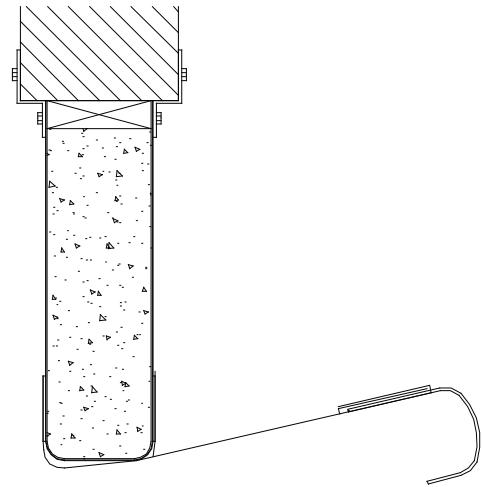

FIGURE 5
2. Make sure that the velcro flap on the outside of the side curtain completely covers the velcro on the side frame. (See Figure 5)
4. Starting at the top, repeat Steps 1 & 2, to the inside velcro flap on the side curtain. However, the Eliminator™-GapMaster™ II side curtains are intentionally made to “toe” or angle inward toward the door opening or building wall. (See Figure 5) The outside velcro flap on side curtain is made longer than the inside velcro flap. This is done to reduce the effects of the hook pushing the curtain face out on the header assembly. It is important to make sure the side curtains are installed in this fashion. The inside velcro flap on the side curtain will overlap and go past the velcro on the inside of the side frame. This is normal.